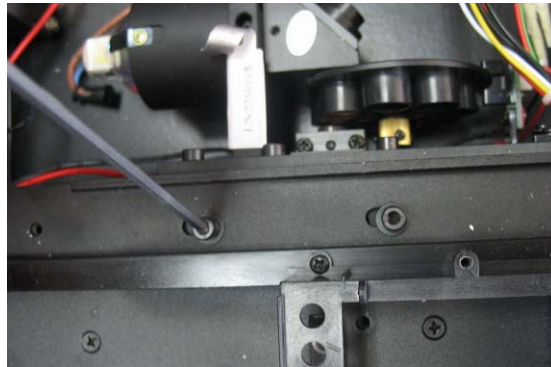

Figure 3-34
- 5、 Use a hex wrench M4 to loosen the two screws which fix the optical path, please note that you don't need to take them out, as shown in figure 3-34.